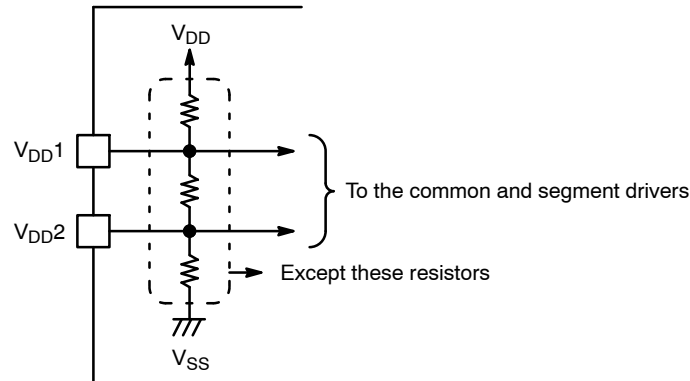

Figure 1.
1. Excluding the bias voltage generation divider resistors built in the V_{DD1} and V_{DD2} (See Figure 1).